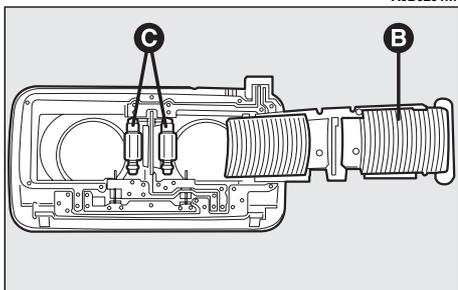

fig. 54
- Open the cover (**B**-fig. 54).
- Replace the bulb concerned (**C**-fig. 54) by pulling it outwards and freeing it from the lateral contacts ensuring that the new bulb is correctly fitted between the contacts.